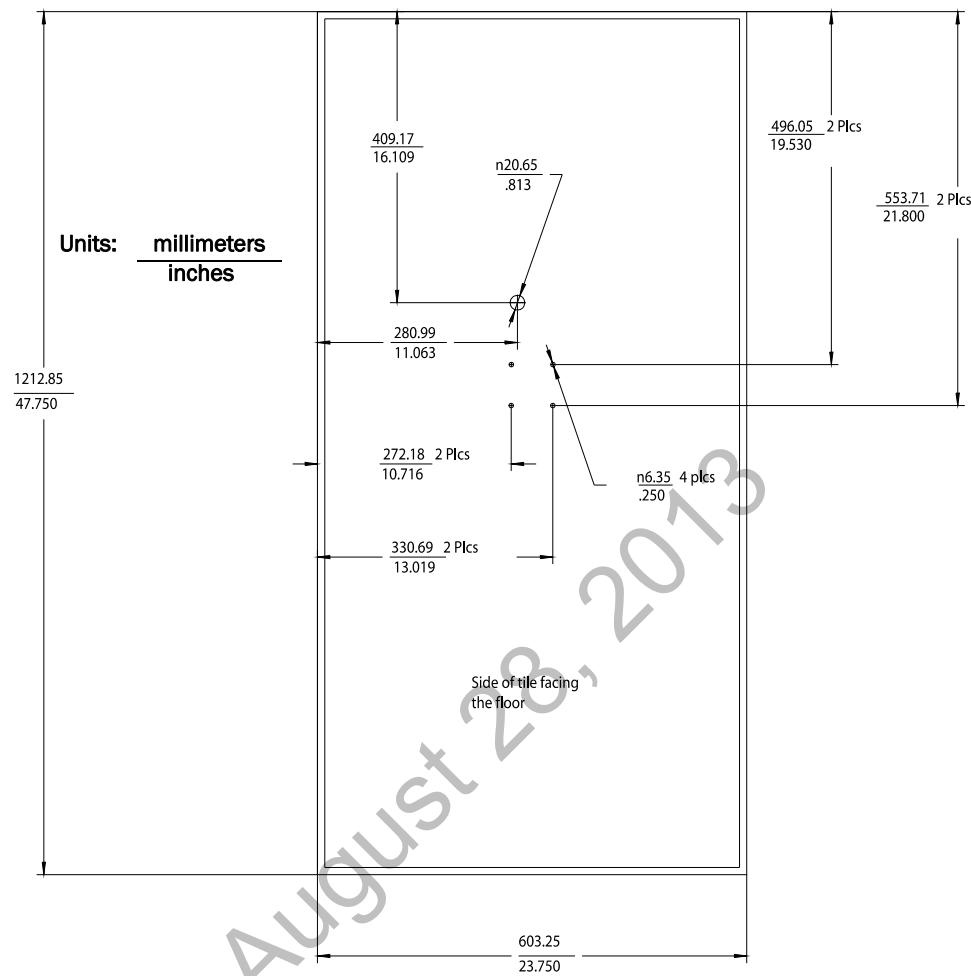

Figure 2-21: RA Below Ceiling Tile Hole Locations and Dimensions
3. Refer to Figure 2-21 for all dimensions and hole locations. Place the mounting rails across the tile (underside of tile). For ceiling tiles that are smaller than standard 2' x 4' size ceiling tile, the mounting rails can be cut down in length at the u-shaped cutouts.